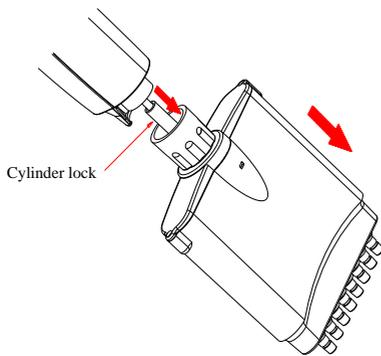

Figure 13: Push the cylinder lock downward until you hear a click sound.
4. **Please place the pipette on a flat surface.** Push the cylinder lock downwards until you hear a click sound as shown in Figure 13.